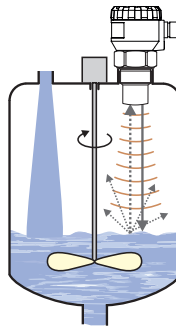

Fig. 9: Moderately stirred surface
- During filling, mixing and other processes, **foam** can arise on the level of the measured liquid. The foam considerably absorbs the radio signal of the level meter (Fig. 9). For such cases, it is necessary to set up "SENSITIVITY" mode to "high" or contact the manufacturer if need. In case of a thin layer of foam, it is also possible to use the directional horn for improving receipt of the reflecte echo.
- Scattering or attenuation of the radio signal can result if the level has been **moderately stirred** or **rippled** (by a mixer, coming liquid etc.). It can result in reduction of the measurement range or unreliable function of the level meter (Fig. 9).